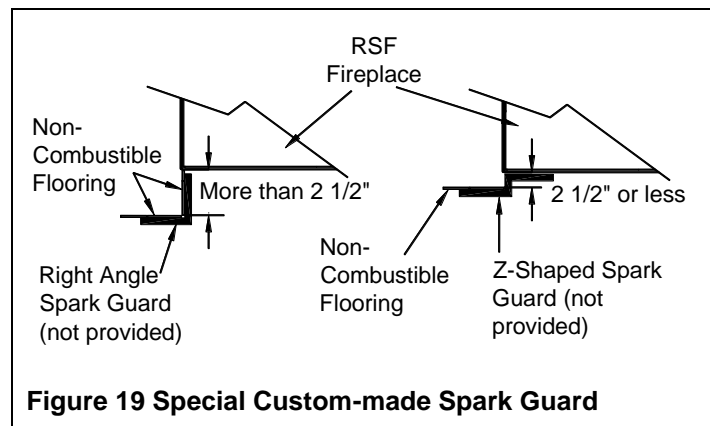

Figure 19 Special Custom-made Spark Guard
If you are preparing a raised installation, you will need a custom-made spark guard, either a "Z" shaped spark guard or a right-angle spark guard (see Figure 19). The Z-shaped spark guard must be used if the height between the bottom of the fireplace and the top of the non-combustible flooring of the hearth extension is less than or equal to 2½". The height of the Z-shaped spark guard must equal the distance between the floor and the base of the unit and go under the hearth extension and the fireplace by at least 2½". If the unit is installed higher than 2½" from the top of the flooring, a right-angle spark guard is necessary. The sides of the right-angle spark guard should be at least 2½" x 2½" and must be covered with non-combustible material. Any custom-made spark guard must have the minimum width specified in Table 1 (I) and be installed centered on the door opening.